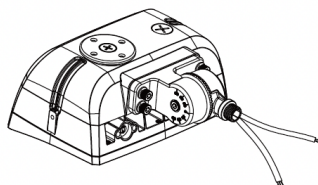

Fig 1.2
2. Connect both parts of the Knuckle Mount using the bolt provided (Fig. 1.2).